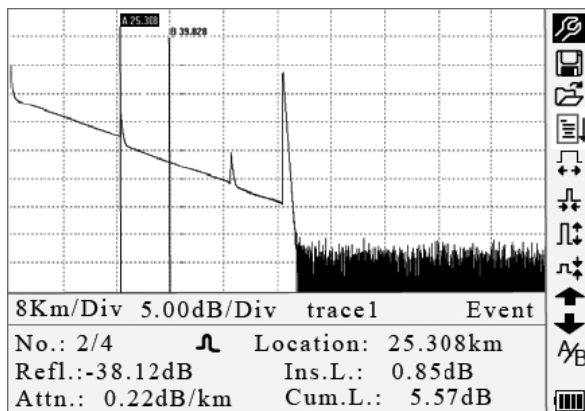
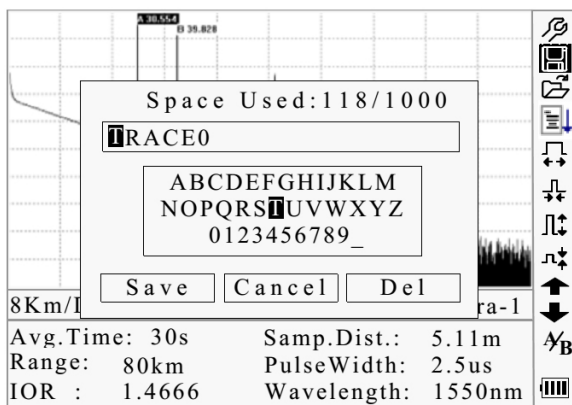
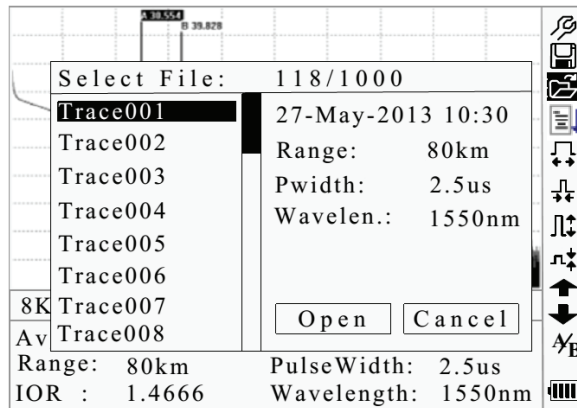

Figure 4-4. Trace Measurement
Figure 4-6. Save a Trace
Figure 4-7. Browse Saved Traces
*Note: After a certain period of time, the trace displays on the GUI. The trace in the figure below is a trace during measurement, which will be refreshed for every certain period of time to demonstrate the whole process in realtime. But at the end of measurement the trace will be complete, as shown in Figure 4-4.*
Under GUI (Figure 4-4) press  and the items in the information window will display in this order: measurement parameters → analysis information → events list → marker A/B information → fiber information → measurement parameters.
Under GUI (Figure 4-4) press  until the events list information appears in the information window.
Under GUI (Figure 4-4) use  and  to highlight A/B, and then press Enter to switch between marker A/B.
Under GUI (Figure 4-4) press  to switch information window to marker A/B information.
1. Under GUI (Figure 4-4) use  and  to highlight , and then press Enter to zoom out the trace horizontally.
Under GUI (Figure 4-4) use  and  to highlight , and then press Enter to zoom out the trace vertically.
1. Under GUI (Figure 4-4) use  and  to highlight , and then press Enter to zoom out the trace vertically.
Under GUI (Figure 4-4) use  and  to highlight , and then press Enter to zoom in the trace vertically.
1. Under GUI (Figure 4-4) use  and  to highlight , and then press Enter to enter (Figure 4-6).
1. Under GUI (Figure 4-4) use ▲ and ▼ to highlight , and then press Enter to confirm (Figure 4-7).